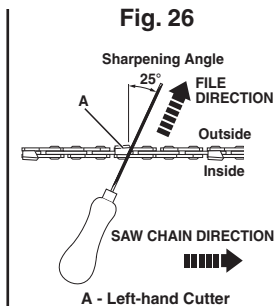

Fig. 26
- Use a round file, whose diameter is 1.1 times the cutting tooth depth. Make sure 20% of the file diameter is above the cutter's top plate (See Fig. 26 and 27).
- File at an angle perpendicular to the bar, and at an angle of 25° to the direction of travel. (See Fig. 26)